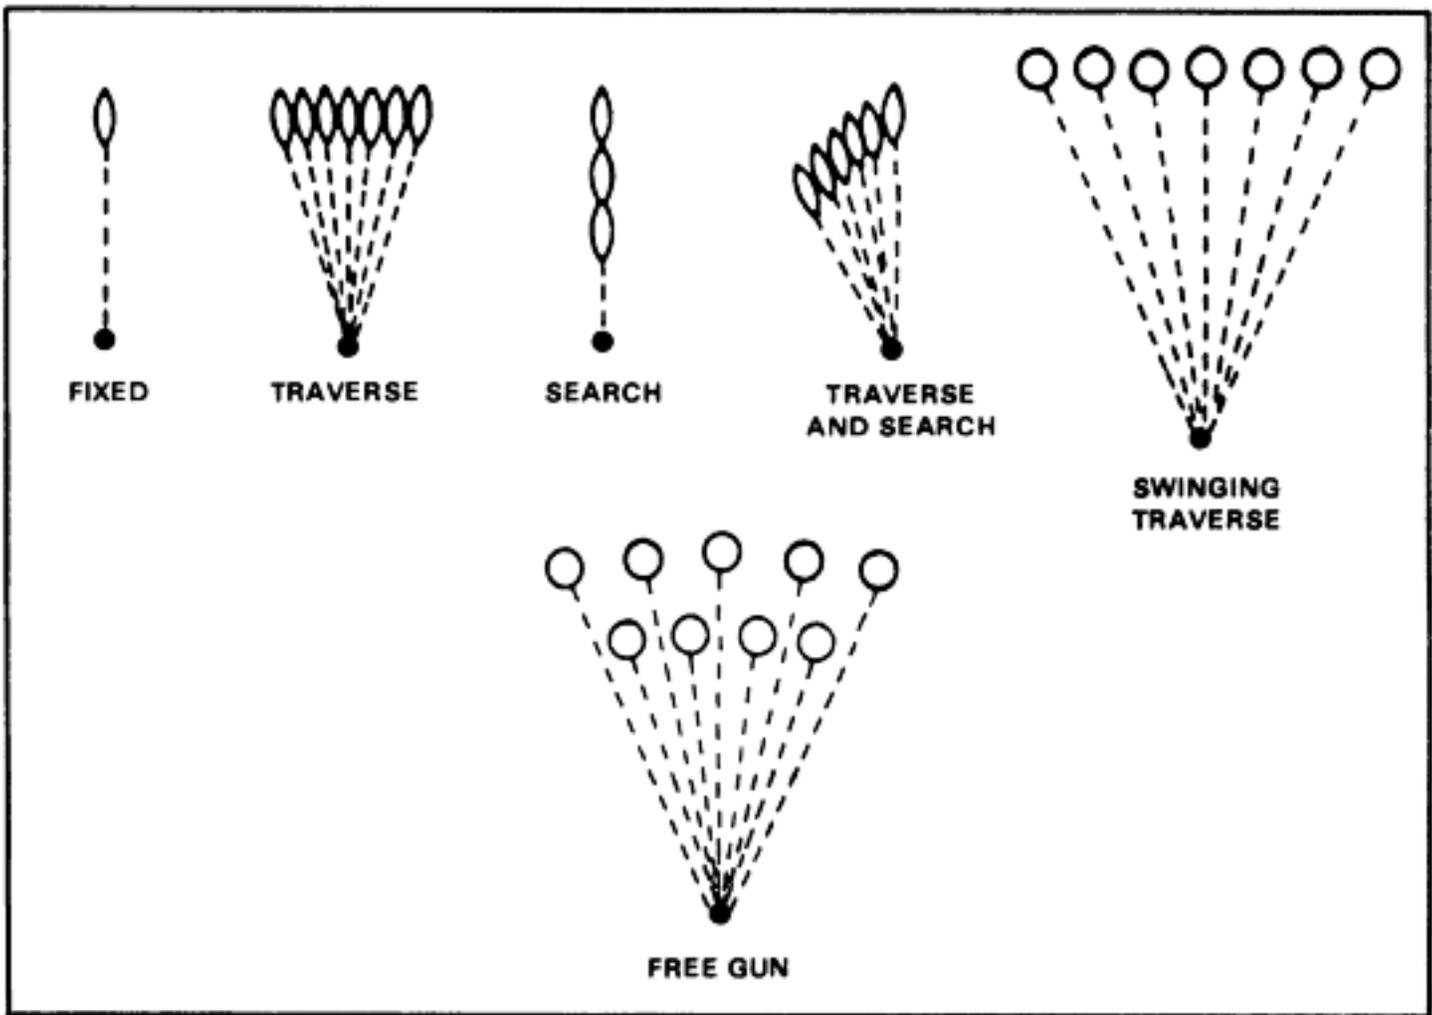

Figure 6-3. Classes of fire with respect to the MK 19.
- (1) Frontal. This type of fire is delivered against a target's front, with the target moving toward the firing position.
- (2) Flanking. This type is delivered against the flank of the target.
- (3) Oblique. This is fire directed at a target moving at any angle other than directly toward or perpendicular to the gun.
- (4) Enfilade. This type of fire occurs when the long axis of the beaten zone coincides with the long axis of the target. Enfilade fire may be frontal or flanking, depending on which way the target is facing. For example, frontal enfilade occurs if the MK 19 is in the middle of a road and the target is approaching on the same road. Flanking enfilade occurs if the target is moving either way, left or right, yet is still in a long axis configuration away from the MK 19.
c. Respect to the MK 19. This includes six ways in which fire may be manipulated (Figure 6-3).